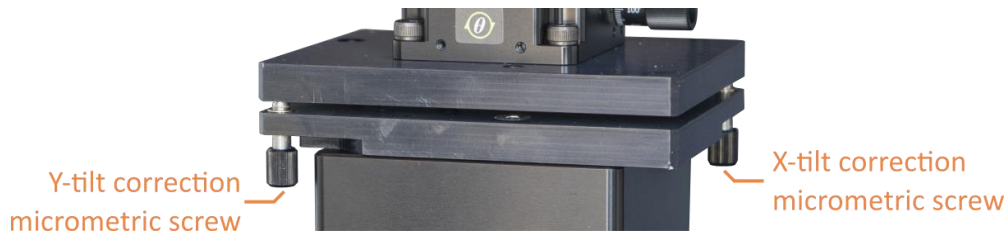

Figure 32 - Tilt correction platform
Prior to start the exposure, user must check the planarity of the sample in order to ensure a good focus during the entire lithography process. To do so, use the tilt correction platform (Figure 32) as follow:
- Use the **“Y-tilt correction micrometric screw”** on the left side of the tilt correction platform (Figure 32) to focus the image then select the saved position Pos. 0 and click on the **Go to...** button in the **Saved Positions** panel.
- Repeat the previously described procedure to adjust the focus between Pos. 0 and Pos. X using the **“X-tilt correction micrometric screw”** on the right side of the tilt correction platform (Figure 32) to focus the image at Pos. X.